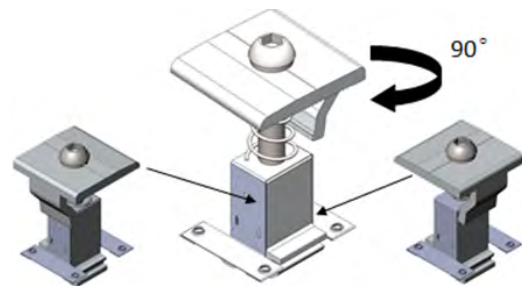

Figure 9
- Step 1: Turning the top plate of the Universal Clamp to switch the functionality between End and Inter Clamp as shown in Figure 9.